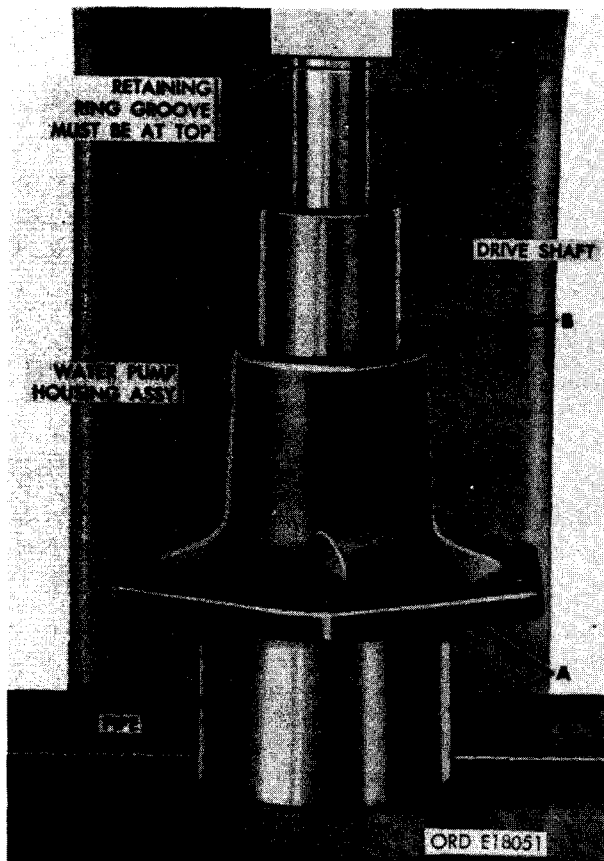

FIGURE 129. INSTALLING WATER PUMP DRIVE SHAFT IN WATER PUMP HOUSING ASSEMBLY.
- (4) Figure 129. (A) Position water pump housing assembly on a piece of pipe which has an inside diameter large enough to clear the installed water pump seal. (B) Start drive shaft bearing into housing bore and press in housing until bearing area of shaft passes retaining ring groove.